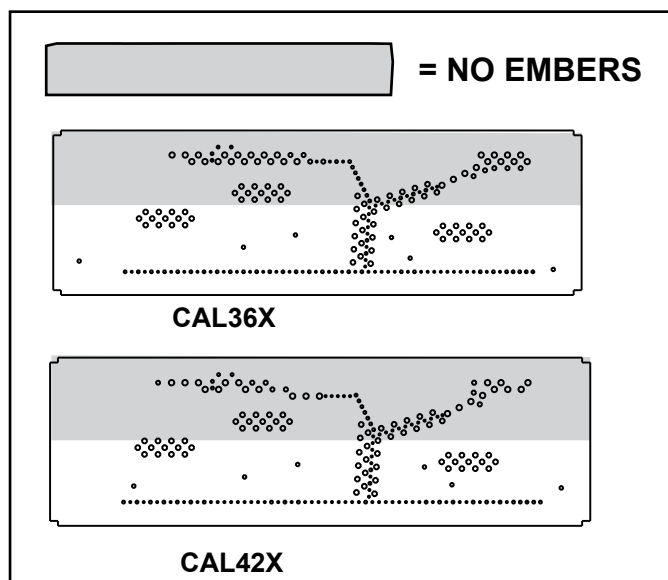

Figure 11.10 Burner Media / Ember Placement
- Embers may only be placed in areas as shown in Figure 11.10.